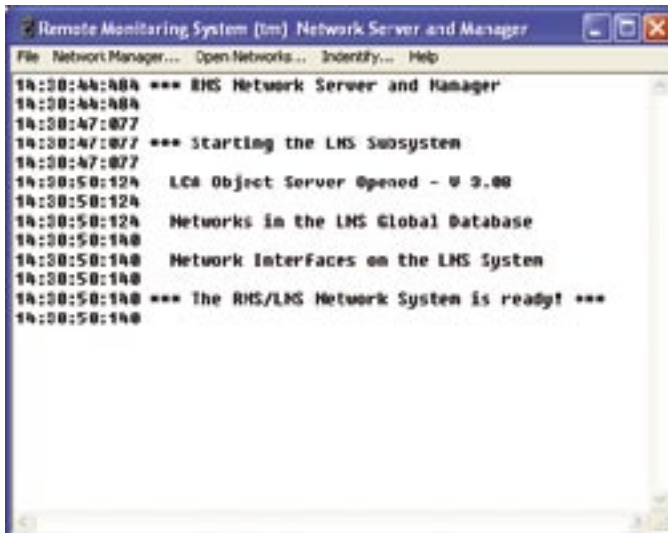

Figure 3.3. The Network Server and Manager dialog
1. A Network Server and Manager dialog will appear displaying information about the status of the program and the server on startup (Figure 3.3).